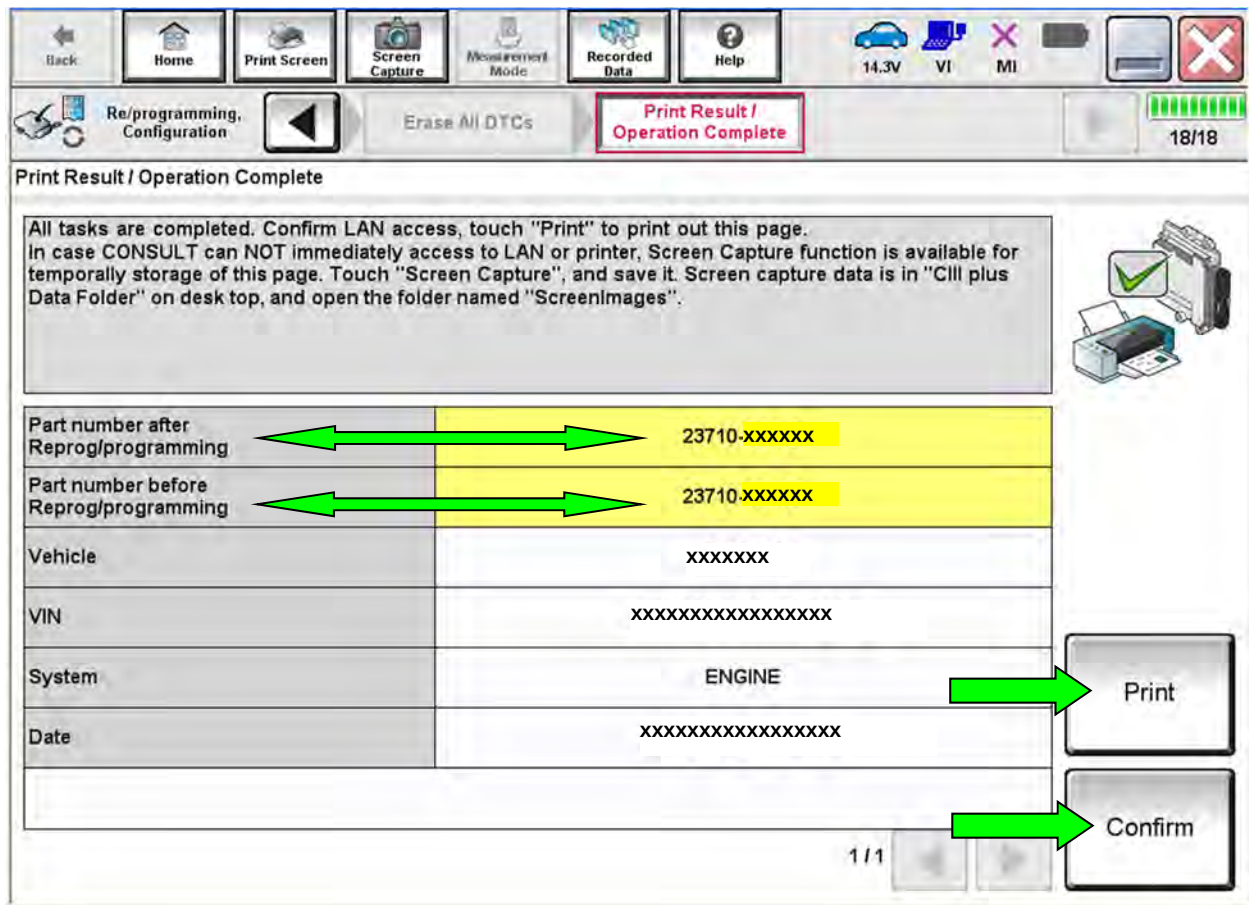

Figure 75
73. When the entire reprogramming process is complete, the screen in Figure 75 will display.